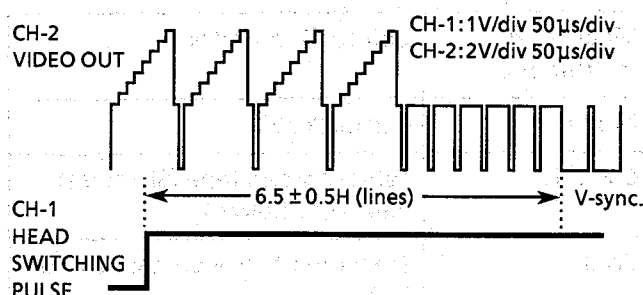

Figure 5-2.
2. Make for a moment short-circuit between TEST jumpers 3 and 4 located on the timer PWB. Be sure that all the fluorescent display tubes light up into the TEST mode. (See Note below ①)
7. Make this checking of waveform on the oscilloscope screen be as shown in Figure 5-2. just after the head switching point have been adjusted.